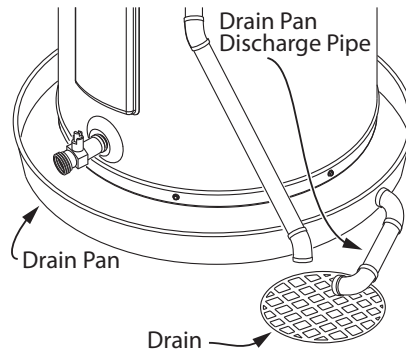

Figure 6 - A suitable drain pan piped to an adequate drain can help protect flooring from leaks and drips.
- Suitable drain pan (Figure 6 on page 8)
- Install a suitable drain pan (available at your local plumbing supplier) under the water heater (Figure 6) to catch condensation or leaks in the piping connections or tank. Most codes require, and we recommend, installing the water heater in a drain pan that is piped to an adequate drain. The drain pan must be at least two inches wider than the diameter of the water heater. Install the drain pan so the water level would be limited to a maximum depth of 1-3/4".
- In a suitable drain pan piped to an adequate floor drain or external to the building (Figure 6 on page 8).